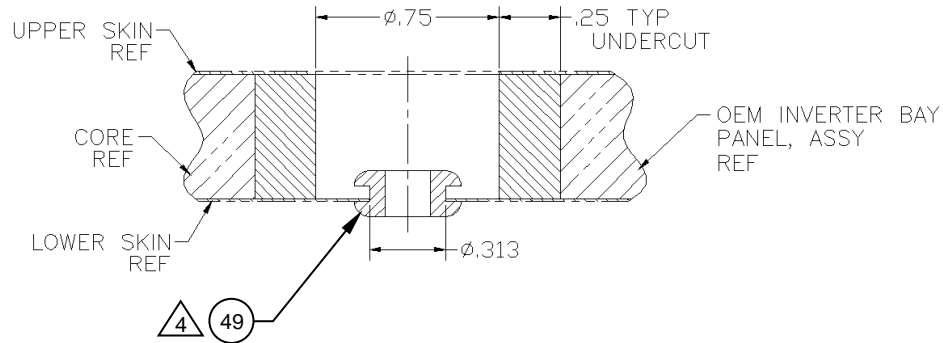

Figure 6
16. Install the Grommets (Item 49) in the lower skin of inverter bay panel as shown. Reference Figure 6.
17. Lead the supplied Wiring Harness, Assy (Item 50) through the appropriate wire holes and associated Grommets (Item 49) in the inverter bay panel keeping the male connector on the inside of the panel. Reference Figure 6.